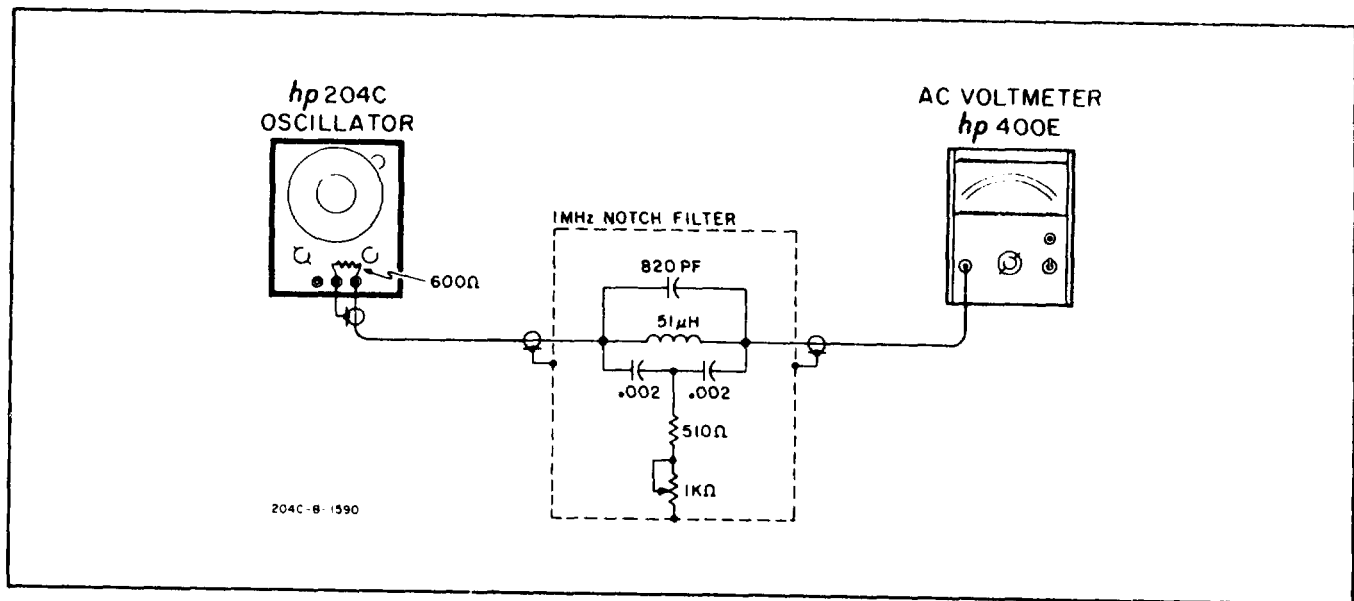

Figure 5-3. 1 MHz Distortion Check
- i. Connect the equipment as shown in Figure 5-3.